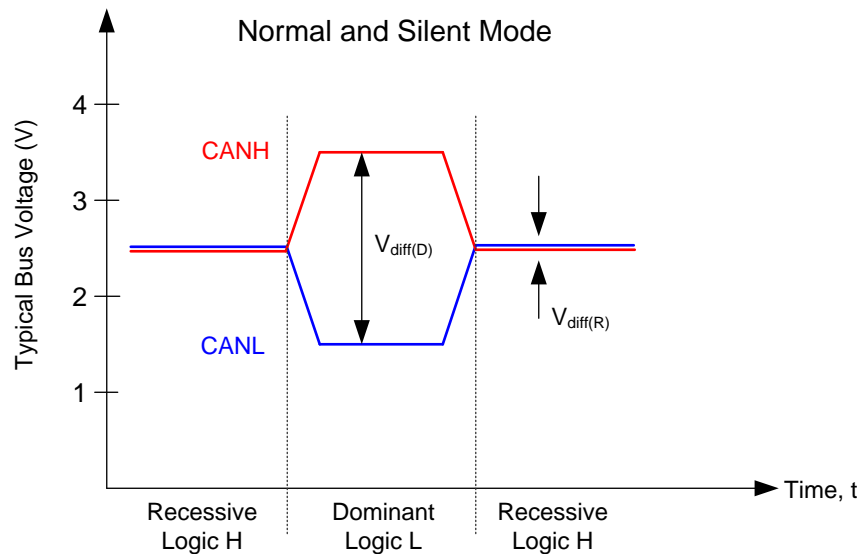

Figure 13. Bus States (Physical Bit Representation)
(1) H = high level, L = low level, X = irrelevant, Z = common mode (recessive) bias to $V_{CC} / 2$. See Figure 13 and for bus state and common mode bias information.
(2) Devices have an internal pull up to V_{CC} or V_{IO} on TXD terminal. If the TXD terminal is open the terminal will be pulled high and the transmitter will remain in recessive (non-driven) state.